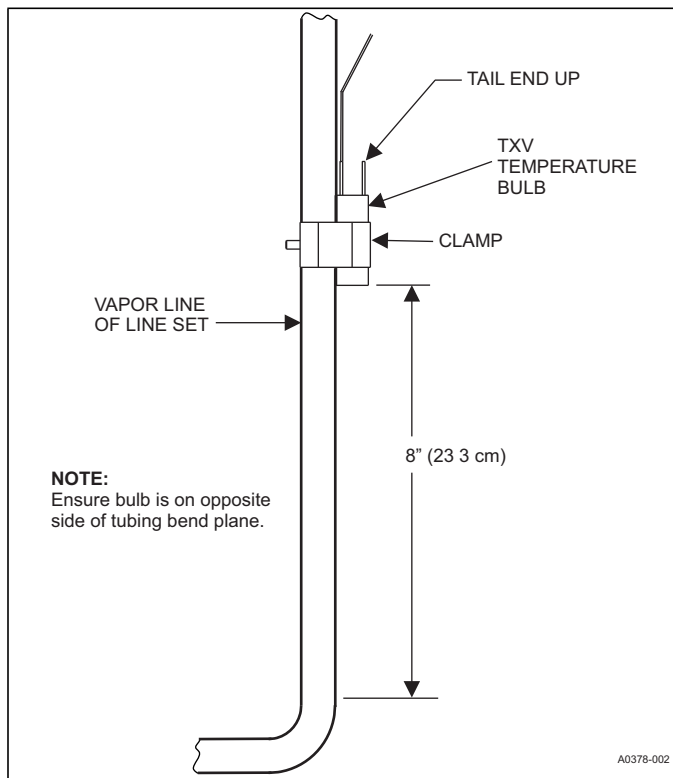

FIGURE 8: Vertical Temperature Bulb Orientation
- b. If bulb installation is made on a vertical run, ensure that the bulb is a minimum 8 inches (23.3 cm) away from elbow coming out of the coil. Position the bulb with the tail of the bulb at the top, so that the bulb acts as a reservoir. See Figure 8.